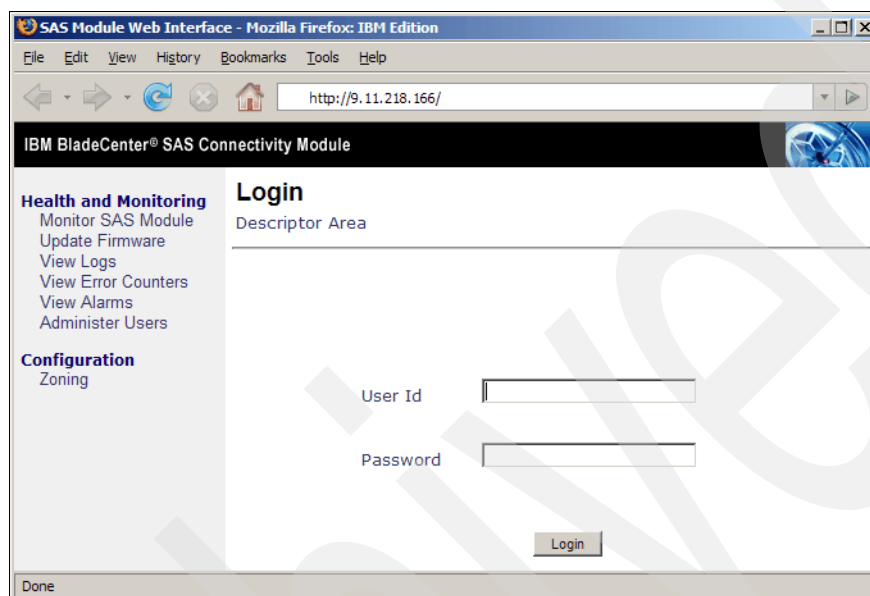

Figure 19-7 SAS Connectivity Module - Login
1. Log on to the SAS Connectivity Module using the Web interface with the IP address defined for the connectivity module in the BladeCenter Advance Management Module (AMM), as shown in Figure 19-7. Use USERID as the user ID and PASSWORD as the password. You can change the password under the Administer Users menu option once you are logged on.